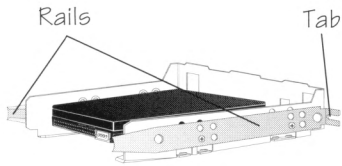

Fig. 1: Hard drive with rails attached
3. If your system requires rails, install them on the CD-ROM drive exactly as they are installed on your hard drive. (See Figure 1.)